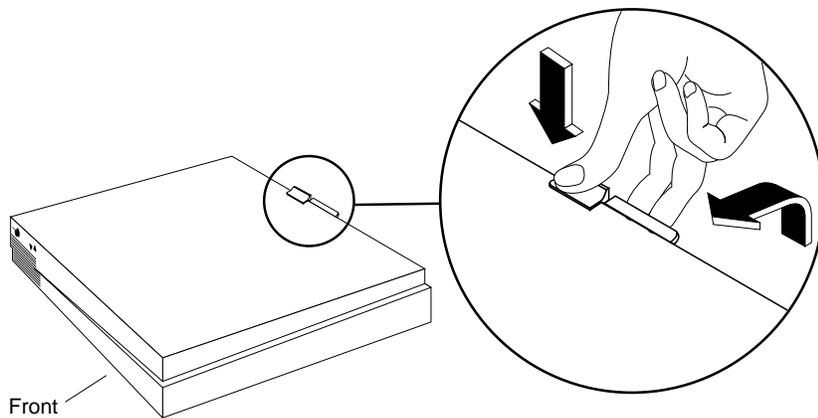

Figure 1-5 Removing the Top Cover From the Indy Workstation
3. Facing the front of the Indy workstation, place your right thumb against the lip at the back of the cover, and your second and third fingers under the finger ledge, as shown in Figure 1-5.